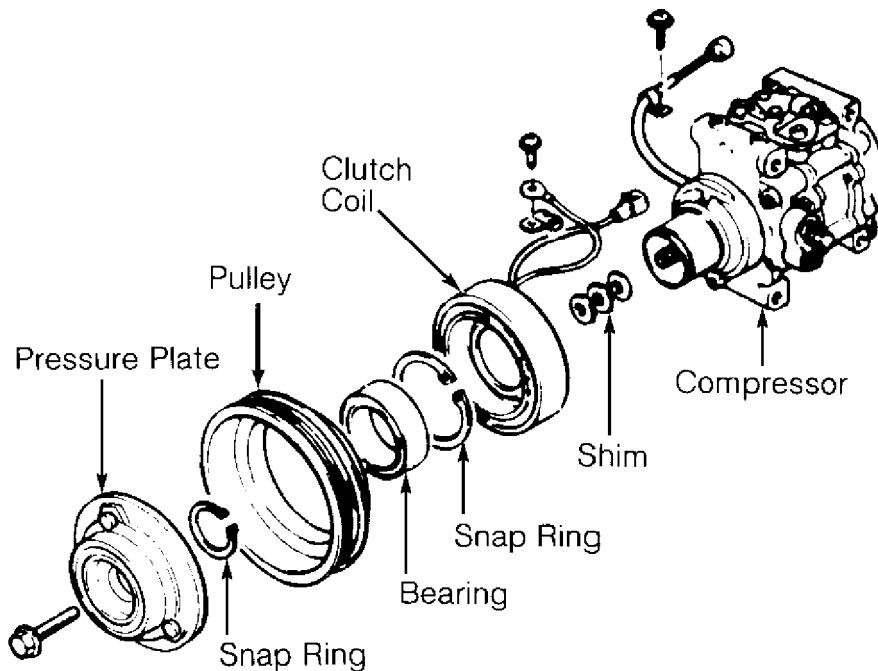

Fig. 11: Exploded View Of Compressor (Matsushita Rotary Vane)
2) Remove shim(s) from shaft. Remove snap ring and, using a plastic hammer, tap pulley off. Remove screw for clutch coil lead. Remove snap ring and clutch coil. See Fig. 11.